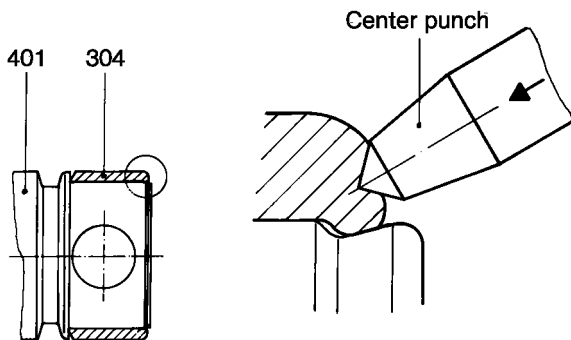

Figure 7: Locking the retaining sleeve.
- Push clamping bands (306), cover sleeves (308) and retaining sleeve (304) onto the shank of the coupling rod (307).
- Push coupling rod (307) into the rotor head (401).
- Push coupling rod pin (301) into the coupling rod bush (302), and drive in guide bushes (303) completely.
- Polish retaining sleeve (304) at the outside diameter, if necessary, with emery, and mount on the rotor head (401).
- Following mounting of the retaining sleeve (304), secure same against axial displacement on the rotor head (401).
ATTENTION For these purposes, drive face of the retaining sleeve (304) into the groove at the rotor head (401) with one punch mark (please refer to Figure 7 below).